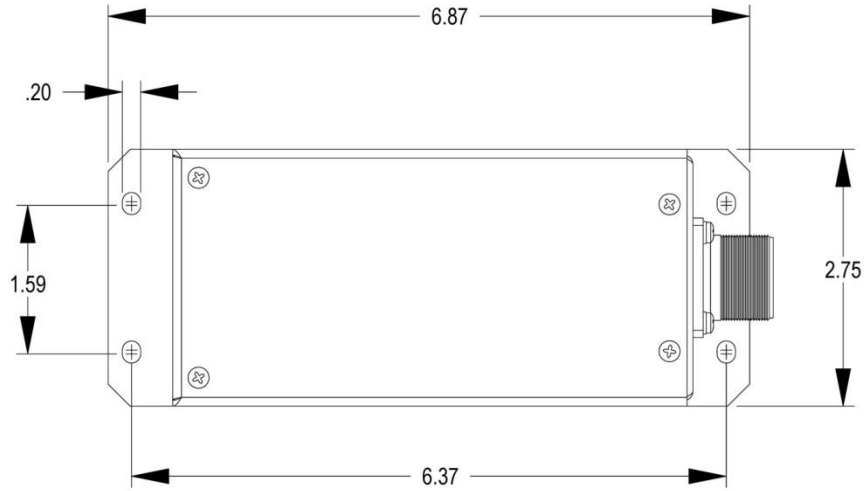
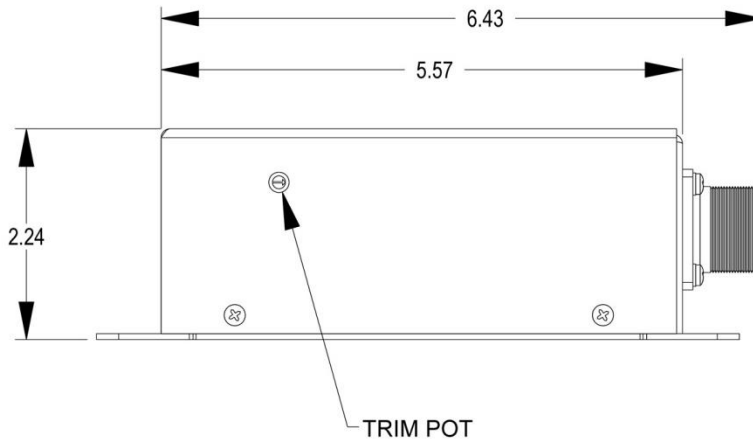

Figure 1: Chassis Footprint Dimensions
Figure 2: Chassis Profile Dimensions
- e. Refer to Figure 1 and Figure 2 and for Power Converter reference dimensions that may be used when planning the installation.